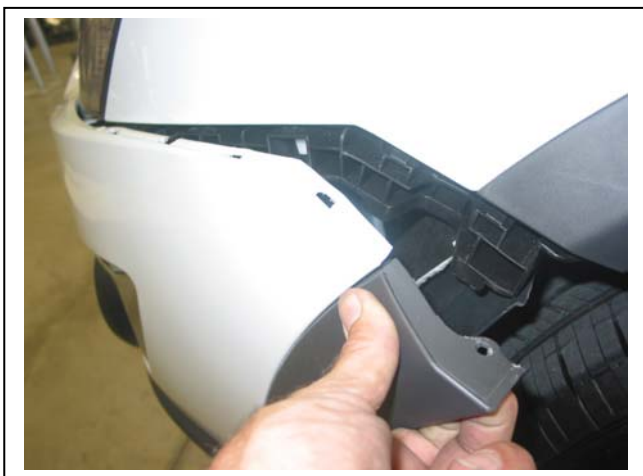

Figure 1: Carefully pull out side of bumper, unclipping from guard clips.
3. Remove seven 7mm head screws from inner wheel liner (per side), and three 12mm head bolts from underside of bumper. Unplug fog light / parking sensor (if fitted) harness from top of passenger's side chassis rail. Carefully pull out on rear wing of bumper to unclip top edge of bumper from plastic and remove bumper. **See figure 1.**